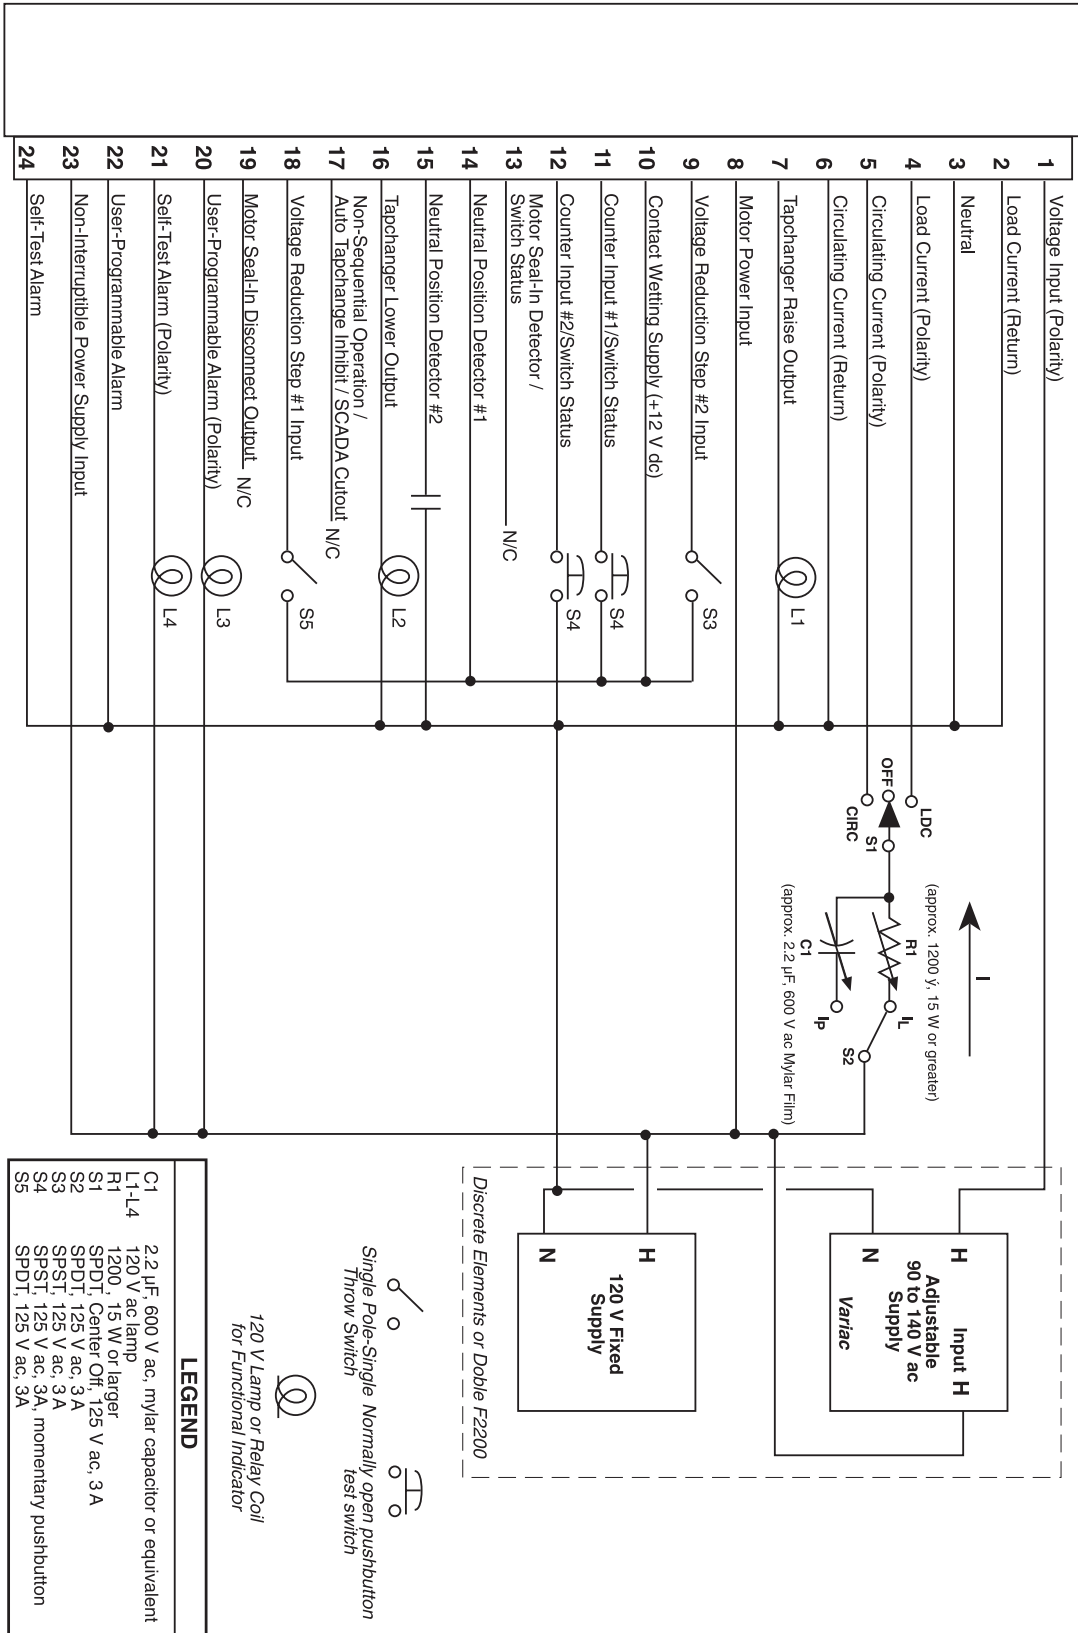

Figure 7-1 External Connections for Test Procedure
1. Make electrical connections as shown in Figure 7-1, External Connections for Test Procedure.